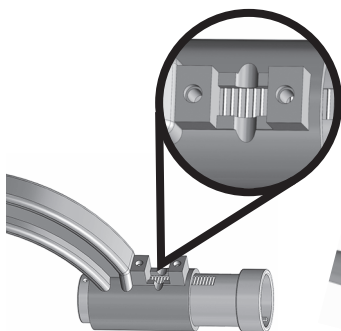

Figure 6
- ❑ Rotate the body tube back to its original position so the ridges are visible in the opening (see Figure 6).